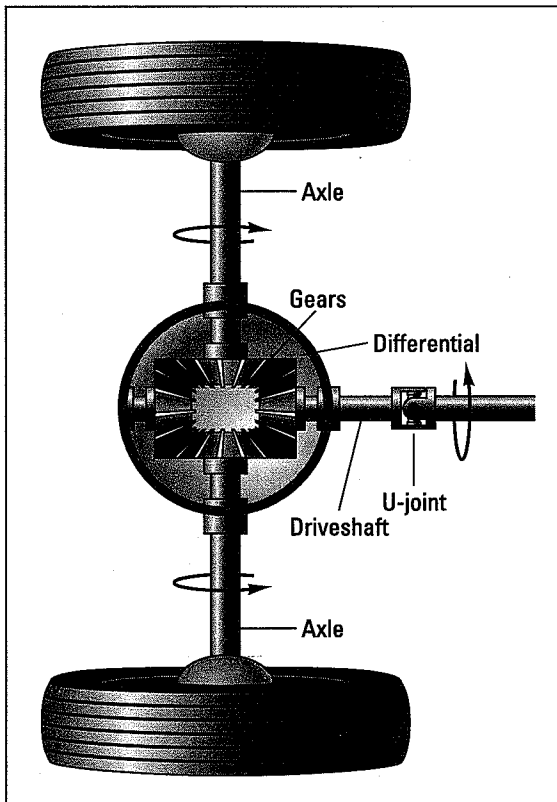

Figure 9-3:
9. The differential (see Figure 9-3) is another box of gears that takes the movement of the spinning driveshaft through a 90-degree angle to the axle that turns the drive wheels. It also allows each side of the axle to rotate at a different speed. This ability is necessary because, when you go around a sharp curve, the outside wheel travels farther than the inside wheel and has to move more quickly than the inside wheel, just like the ice skater at the end of a snap-the-whip line.